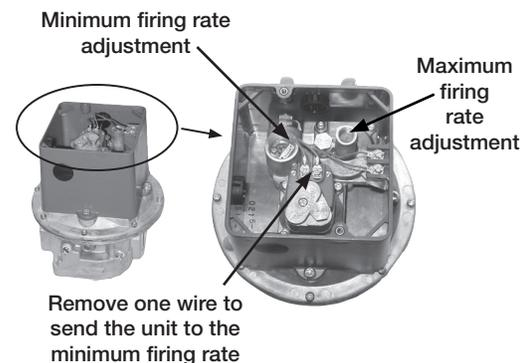

Fig. 3 Combined Modulating Regulator
8. Open main hand valve and then set maximum firing rate to the design temperature rise located on the direct gas nameplate. (**Fig. 3**)